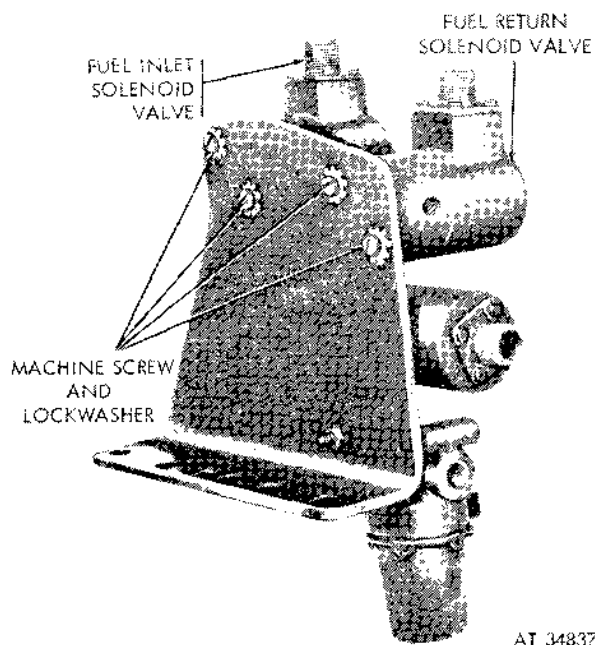

Figure 2-94. Fuel solenoid valves—multifuel engine LDS 465-1.
(2) Remove the three capscrews and lock-washers securing the flame heater fuel pump and fuel filter bracket to the crankcase, and remove the bracket with the solenoid valves (fig. 2-94).